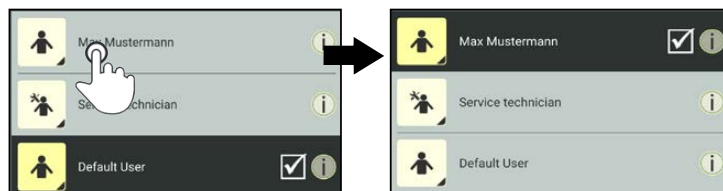

Fig. 60: Selecting a user by tapping
- be tapped (to select a user; see Fig. 60).